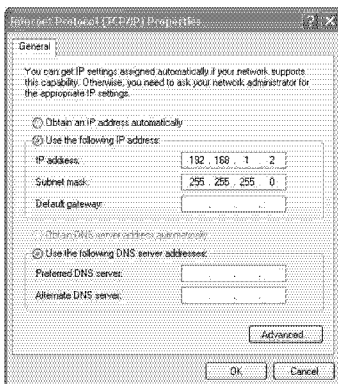

Figure 6: Internet Protocol (TCP/IP) Properties Window
5. Select **Use the following IP Address¹**, and fill in the details as shown in Figure 6.